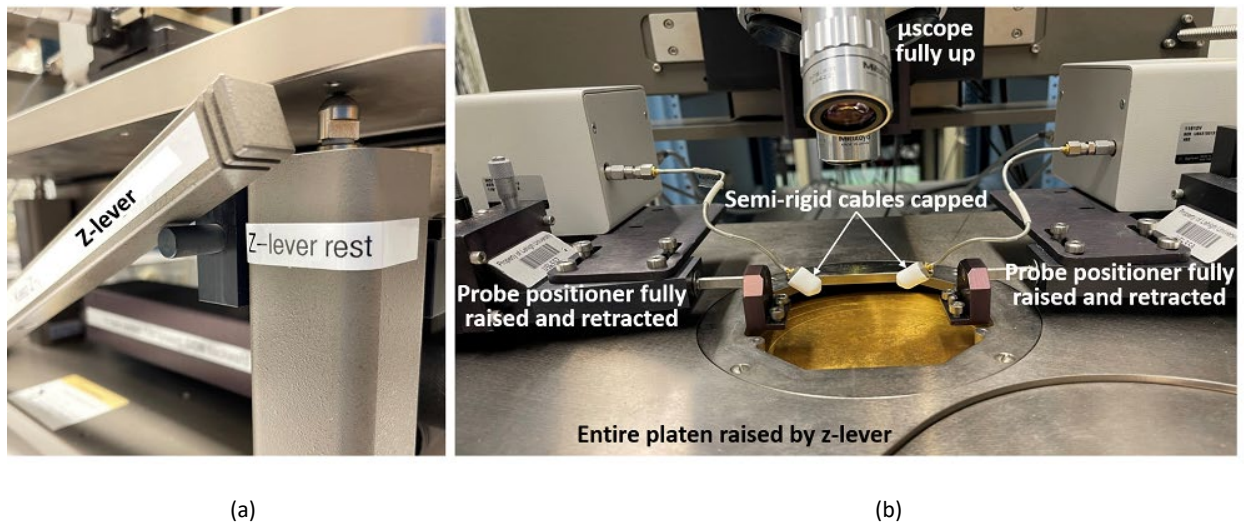
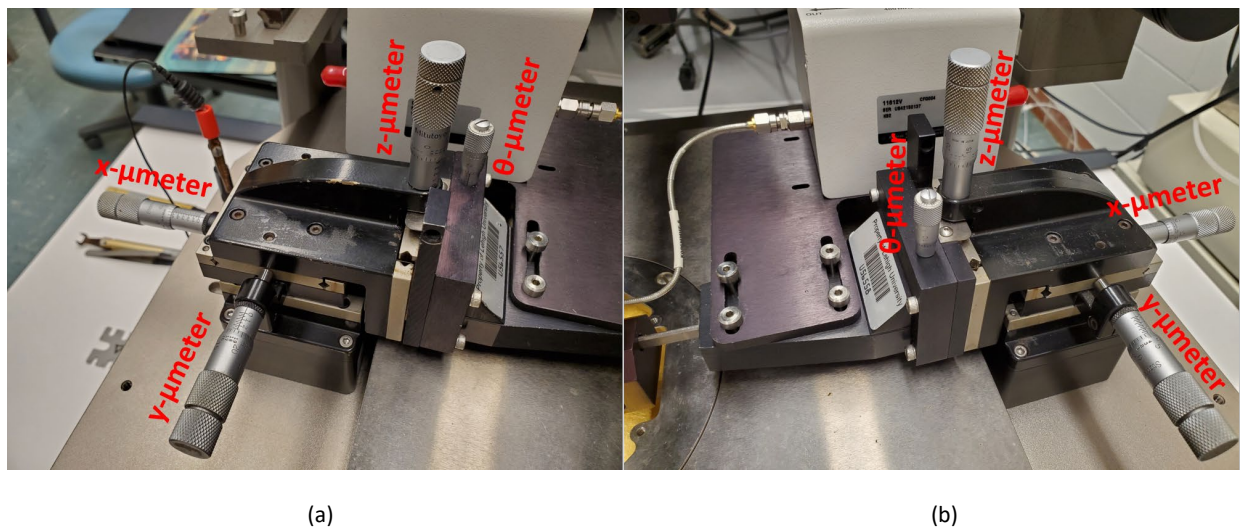

Fig. 2.1. Default setup with (a) z-lever propped up and (b) microscope and probe positioners raised and retracted.
Fig. 2.2. (a) Left and (b) right probe positioners with x-, y-, z- and θ -micrometers.
- 2.3 **Make sure the tool is set up with the z-lever propped up on the rest, the microscope fully raised, the semiflexible cables protected by end caps, and the probe positioners fully raised and retracted (Fig. 2.1) by gently turning the z- and x- micrometers to their middle range around 4 (Fig. 2.2).** The probe positioners are mounted on a platen resembling a table top. The z-lever raises the entire platen up along the z-axis and separates the platen from the wafer chuck. The probes point at each other along the x-axis. The probes can be laterally moved along the y-axis to ensure that they point at each other.
It is critical that the three (GSG) probe tips are on the same horizontal plane parallel to the surface of the device under test (DUT). This way, when the probe contacts the DUT, all three tips make good contacts with their respective contact pads to ensure a smooth transition of the microwave signal from the probe to the DUT and vice versa. To this end, in addition to the x-, y-, and z- micrometers, each probe positioner is equipped with a θ -micrometer which rotates the probe around the x-axis (Fig. 2.2).
- 6.1 Lift the z-lever if it is not already up and propped up on the rest [Fig. 2.1(a)]!
- 7.7 **Lift the z-lever if it is not already up and propped up on the rest [Fig. 2.1(a)]!**